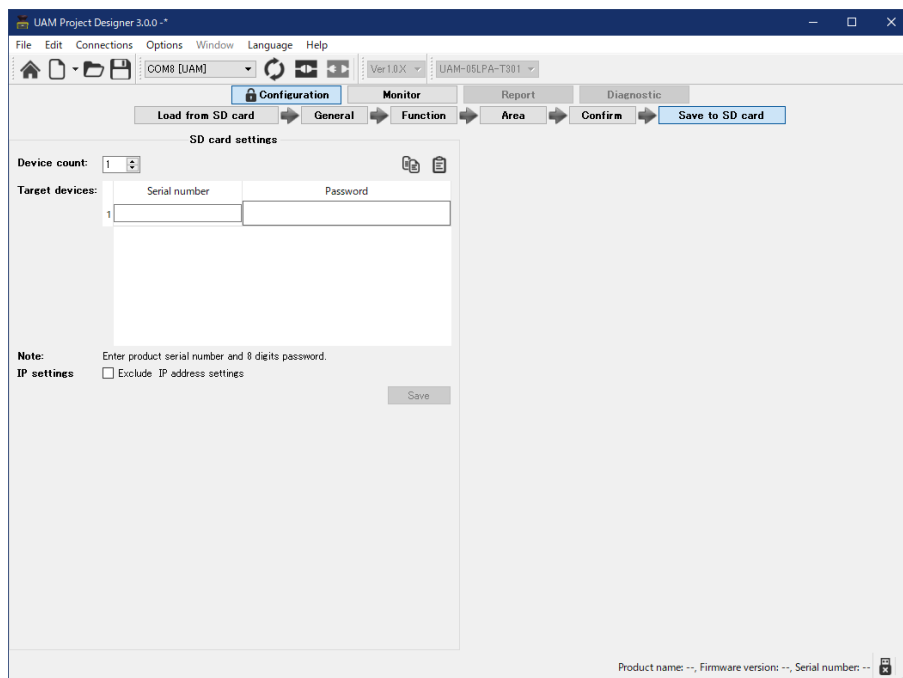

Figure 7-62 SD Card setting screen
- e) In the SD card setting tab (Figure 7-62), enter the serial numbers and the 8-digit passwords of all the UAMs intended to be configured with the settings on the SD card. To prevent the change of IP address of the UAM, check the “Exclude IP address setting” on the tab. This will retain the original IP address of all the UAM.